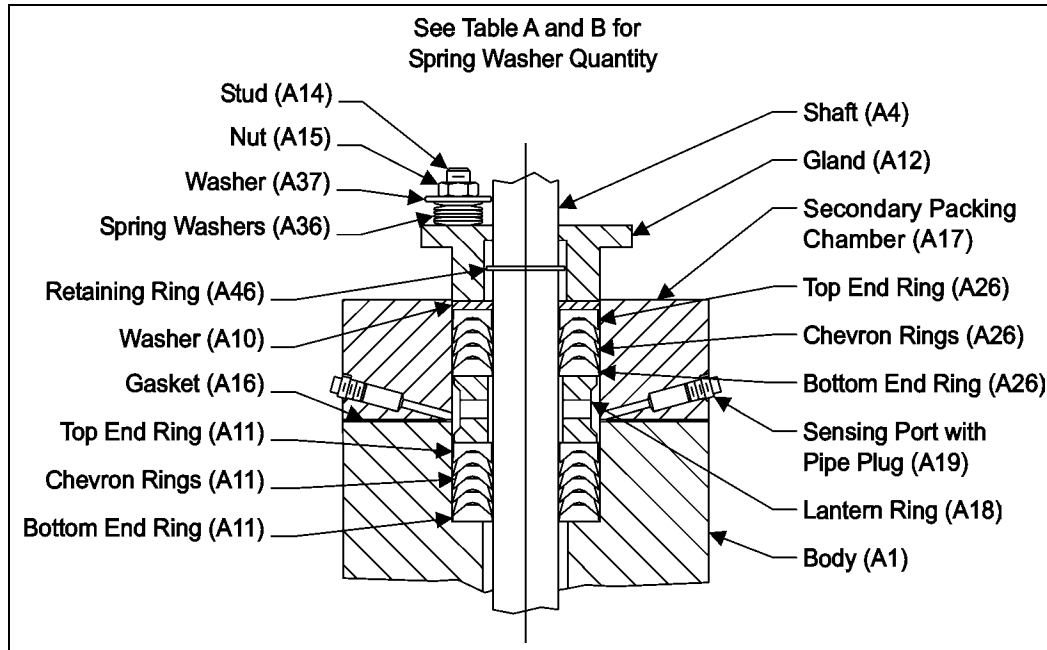

Figure 2 – Packing Option (TCDL)
- Place the primary (lower) set of packing (A11) in the body, one ring at a time, in the configuration shown in Figure 2. Do not lubricate. Start each chevron ring into the packing chamber at a slight angle and push each ring carefully into position so that the sealing lips do not bend over.
- Place the new gasket (A16), the secondary packing chamber (A17) and the lantern ring (A18) in the configuration shown in Figure 2.